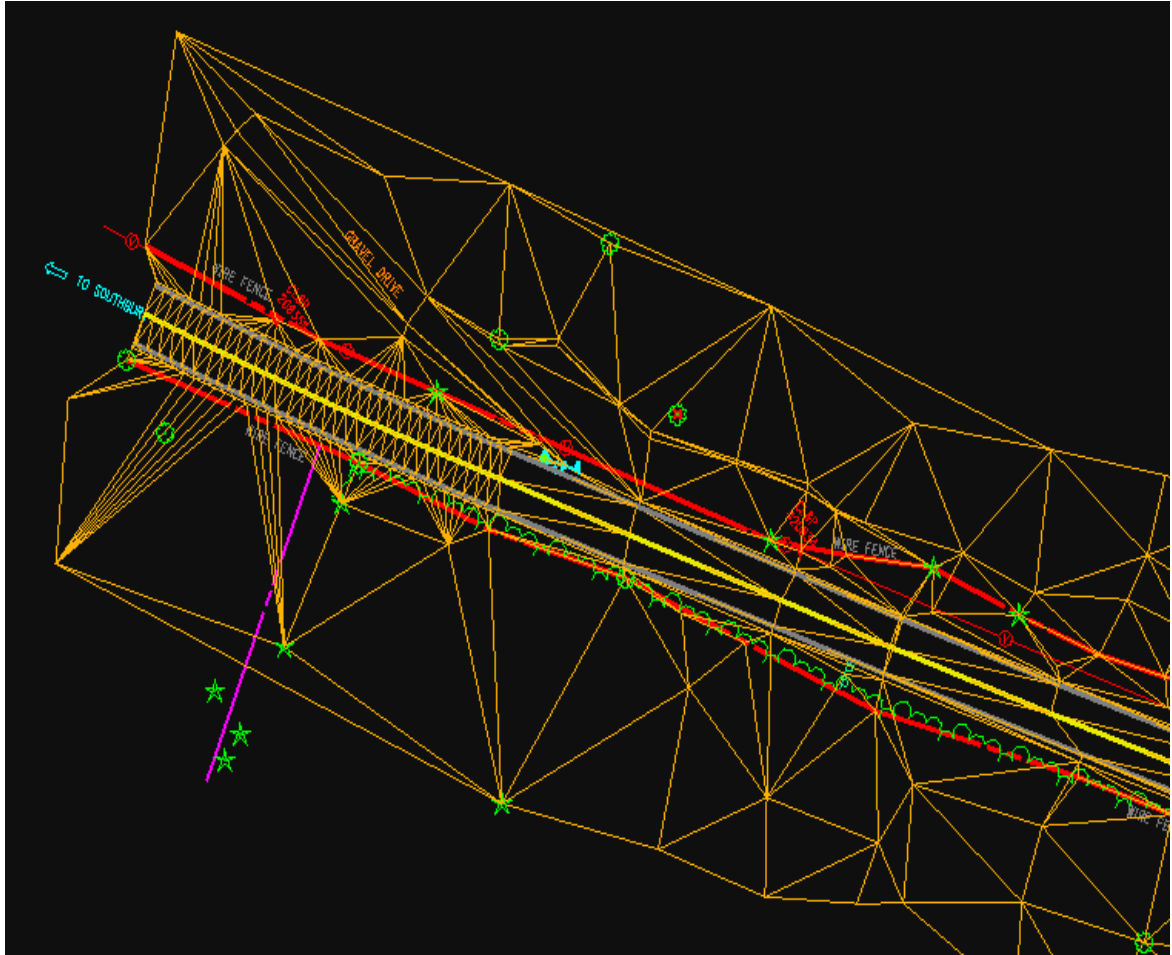

Figure 2-4 MicroStation View of InRoads Generated Triangles
- G. In the View Triangles Box for **Surface**: select **existing**. Click **Apply**, then **Close**. In Figure 2-4, notice the triangles surrounding the roadway.